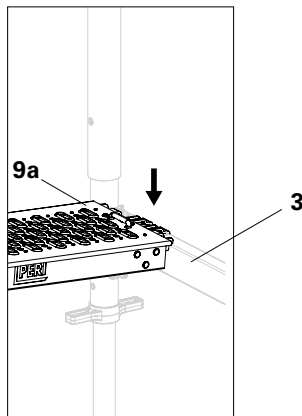

Fig. A2.13a
1. Attach Industrial Deck UDI (**9a**) on one side. (Fig. A2.13a)